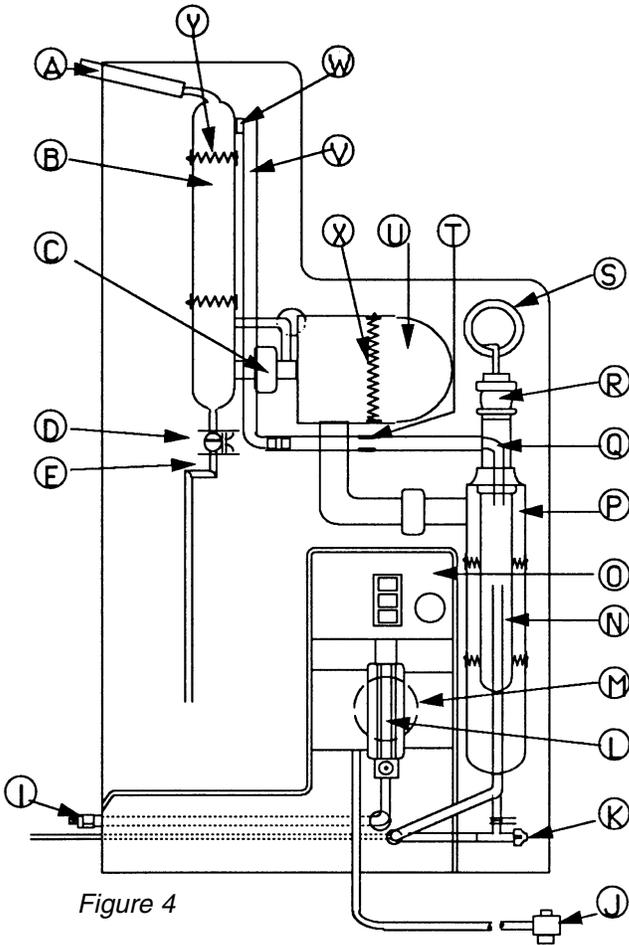

Figure 4
Refer to Figure 4 for the following steps:
1. Reinstall the condenser (B) into the coupling (C) and clamp the condenser in place with springs (Y).
2. Tighten coupling (C) using a 7/16" wrench. The coupling should be just tight enough to prevent rotation with moderate hand pressure.
3. Check the orientation of trap (U). If it is not level or tilted back toward the boiler as shown in Figure 4, move the condenser (B) up in its bracket. This will tilt the trap as shown in Figure 4.
- A. Connect tube (V) to upper the right condenser tubulation using Teflon connector (W).
5. Remove the packing material and rotate tube (Q) into the constant level chamber of boiler (P) as shown in Figure 4.
6. Unpack the Vycor immersion heaters (R) and check the voltage rating on the top cap. It should agree with the voltage of your power supply. If it does not, contact your dealer and order the correct heater.
7. Insert the immersion heaters into the top openings of boiler (P) as shown in Figure 4.
8. Thread the heater plugs and cords through the large hole above the boiler (P), then back through the hole below the control box (O). Plug the heater plugs into the receptacles on the bottom of the control box. The plug is a twist-lock